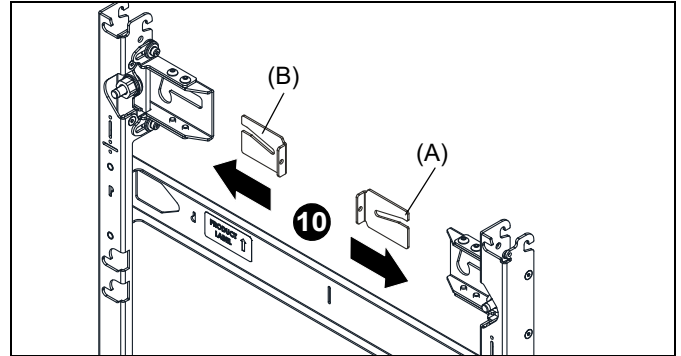

Figure 8
10. Slide the left (B) and right adjustment washers (A) into place behind the partially installed lag screws. (See Figure 8)